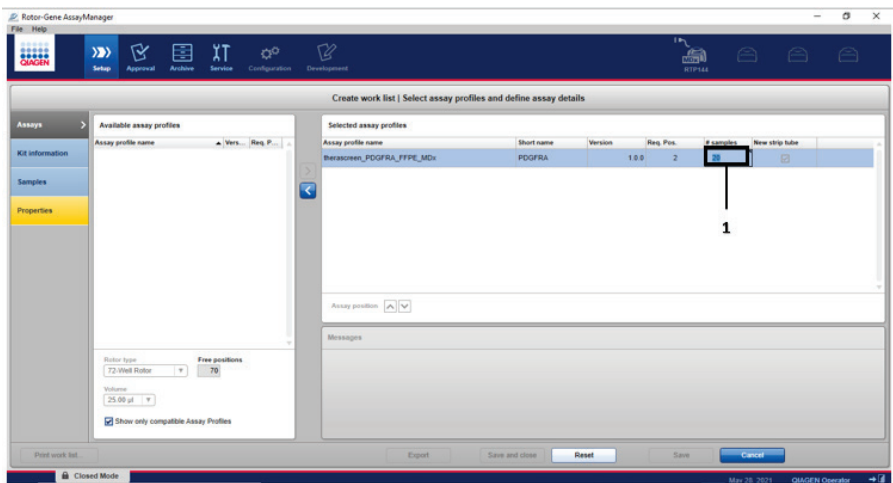

Figure 4. Create work list main window. 1 - Enter the number of samples in the Selected assay profiles section.
19. In the Selected assay profiles section, enter the number of test samples to be tested excluding the number of run controls (1) (Figure 4).